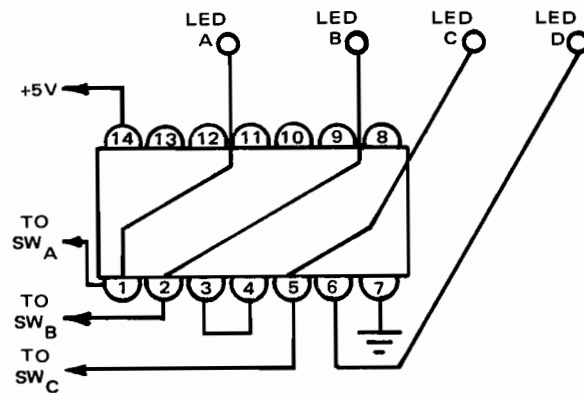

Fig. 17-1-3
9. Turn off SW₁ and add SW_C to IC. Also change LED connections to conform with Fig. 17-1-3.
3. Using logic symbols, make a sketch of the two logic gates set up in procedure step 9 and in Fig. 17-1-3.